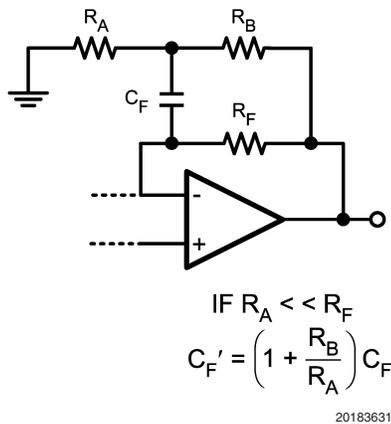

FIGURE 7. Modified Transimpedance Amplifier
Calculating C_F from Equation (3) can sometimes result in capacitor values which are less than 2 pF. This is especially the case for high speed applications. In these instances, it is often more practical to use the circuit shown in Figure 7 in order to allow more sensible choices for C_F . The new feedback capacitor, C_F' , is $(1 + R_B/R_A) C_F$. This relationship holds as long as $R_A \ll R_F$.